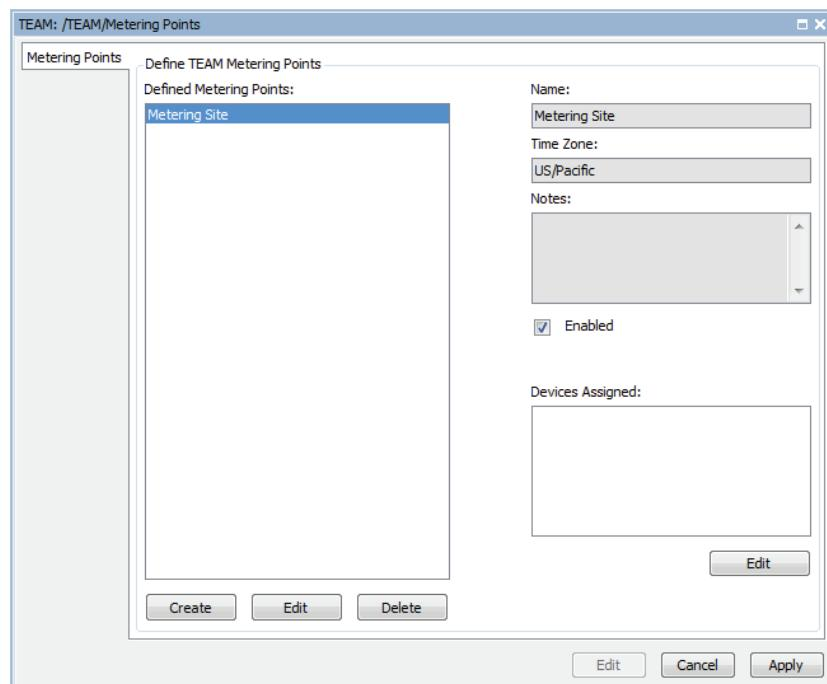

Figure 184 Devices Assigned Window
Step 9. Select the **Edit** button, outlined in *Figure 184*, under the **Devices Assigned** section to open the **Metering Point Device Assignment** window.